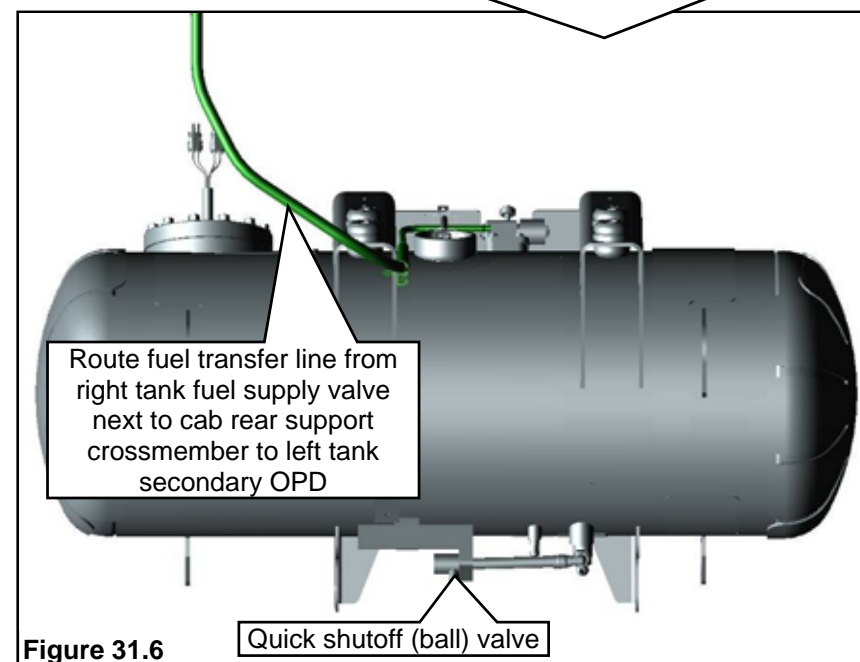

Figure 31.6
5. Temporarily route the fuel transfer line near the cab rear support crossmember over to the left tank secondary OPD. **Figure 31.6.**